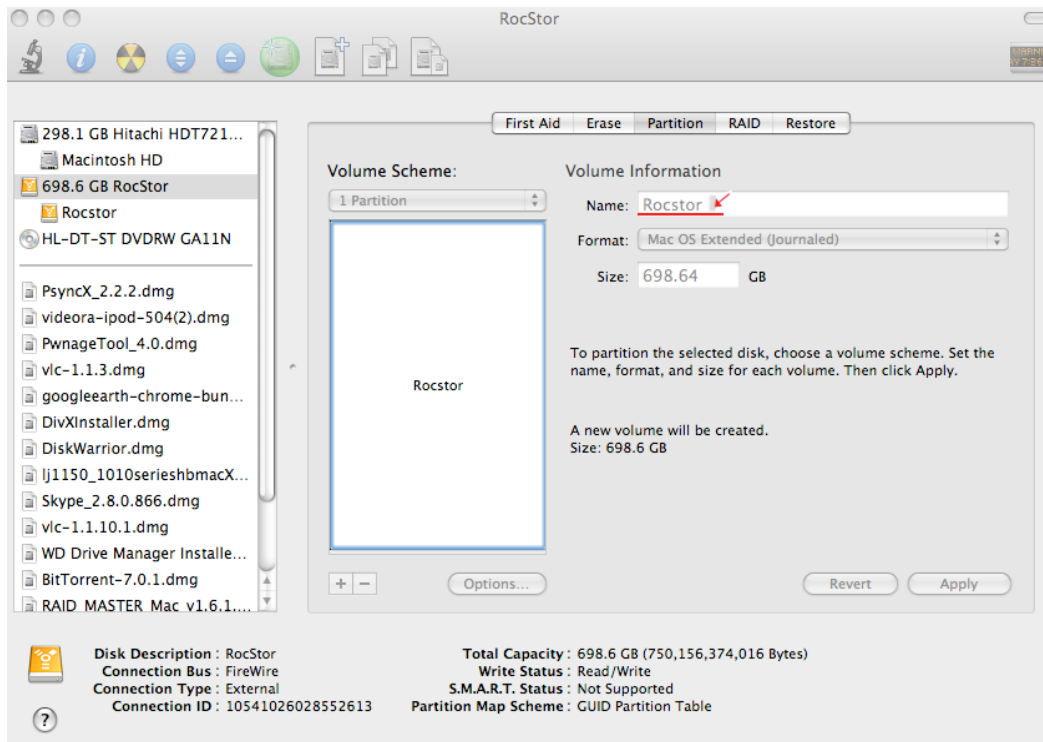

Figure 7.0
10. Volume Information: select a name for your drive (figure 7.0.)